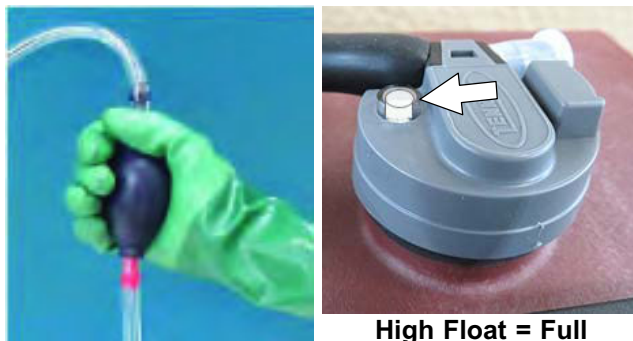

FIG. 131
- Squeeze the bulb on the hand pump hose until firm. The indicator float will rise when full (Figure 131).